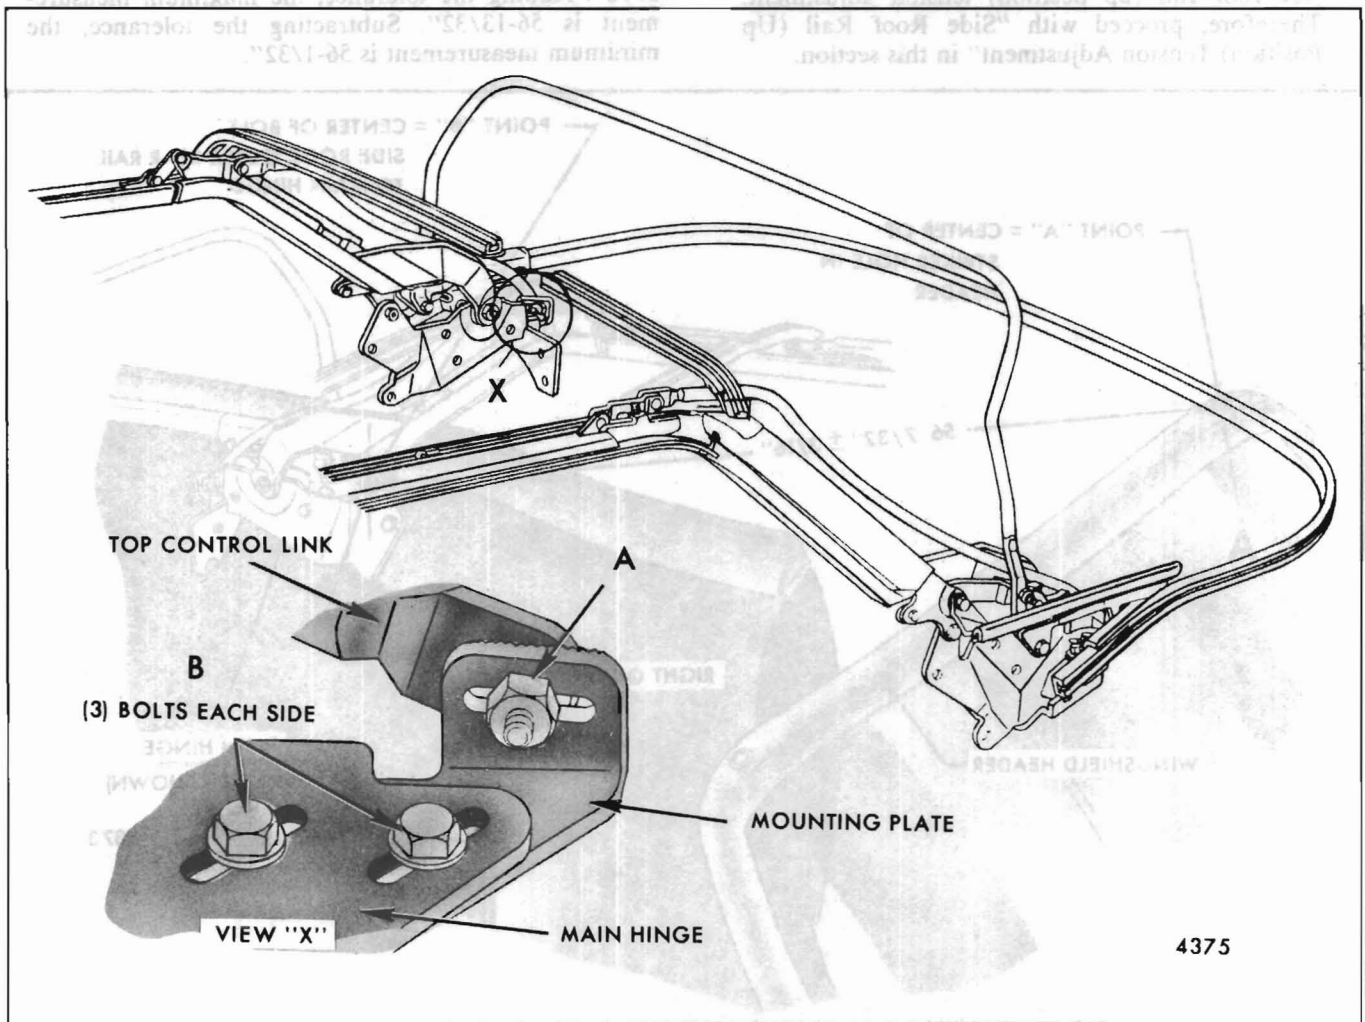

Fig. 21-Top Control Link and Mounting Plate Attachment
3. Loosen top control link attaching nut (View "A", Fig. 21) on each side. Allow front and side roof rails to lay normally in folding top compartment.
7. Before raising top, scribe and then loosen three control link mounting plate attaching bolts (View "B", Fig. 21) on affected sides. Bolts are accessible on right side. Access to "left" mounting plate attaching bolts requires removal of left top actuator unit (See: "Folding Top Actuator Assembly Removal and Installation").
3. Loosen three mounting plate attaching bolts (Fig. 21).
5. Loosen three mounting plate attaching bolts (Fig. 21).